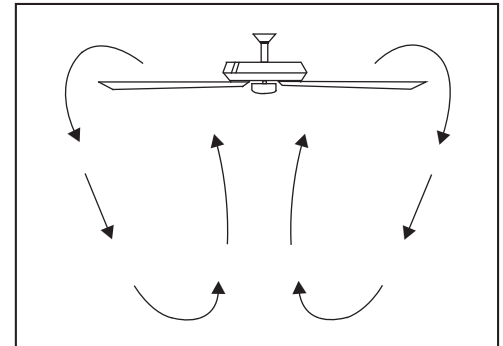

Figure 14
**Cool weather** - (Clockwise direction) An upward air flow moves warm air off the ceiling as shown in Figure 14. This allows you to set your heating unit on a lower setting without affecting your comfort.